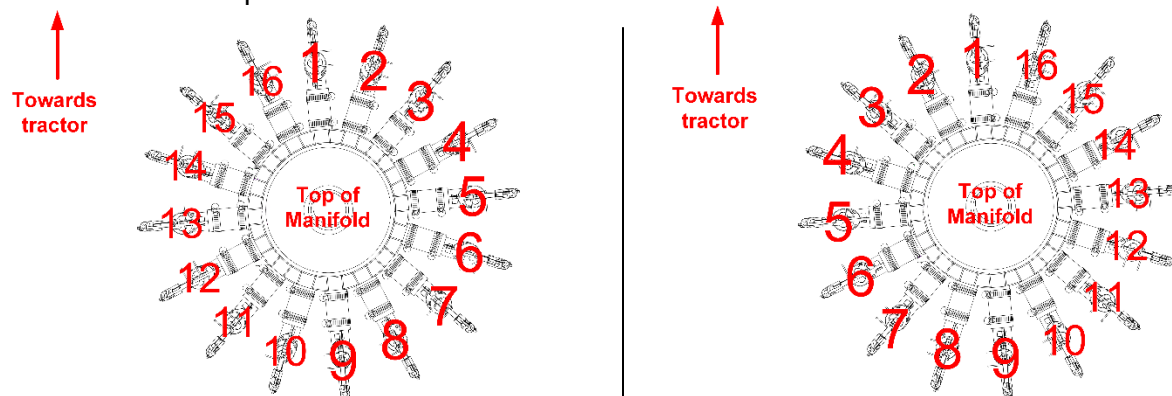

Figure 14: Order to connect flow sensors to ECU
2. Locate the auditory tube of the sensor that is closest to the tractor when facing the back of the tractor (labeled “1” in Figure 14) and route it toward the ECU. connect the auditory tube to the port labeled “1”. Make sure that the hose is not kinked.
4. Continue connecting auditory tubes to the ECU, working clockwise around the manifold as shown in Figure 14.